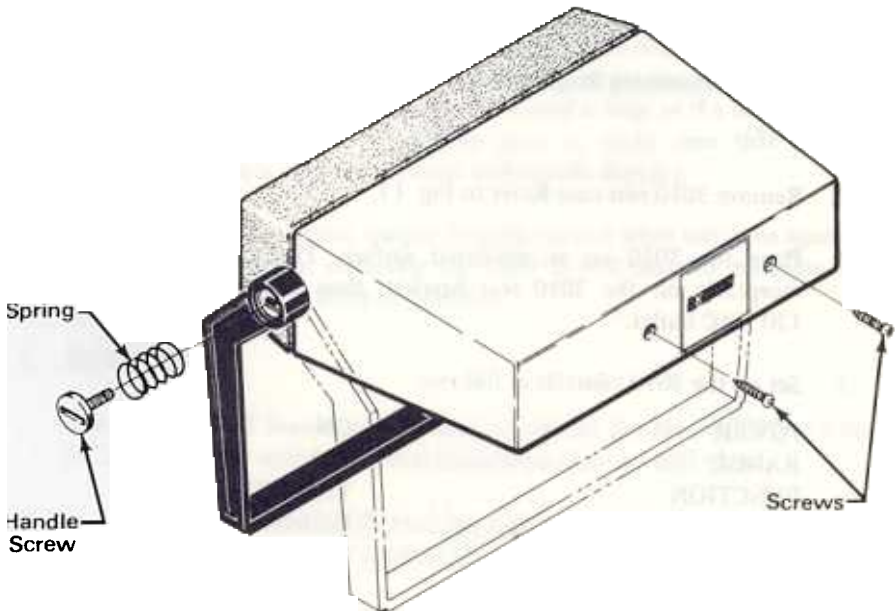

Fig. 17. Removal of rear case.
Use a coin (a quarter works best) to remove the two screws that hold the handle to the case. Use caution to avoid losing the springs beneath the screws that hold the handle on the case. Remove the handle. The handle may be reversed if the user desires; refer to Fig. 17.
Remove 3010 rear case Refer to Fig. 17.
8. Disconnect the scope probe and counter from the 3010 600 $\Omega$  OUTPUT. Carefully re-install the rear case (refer to Fig. 17)
Remove case (Fig. 17).